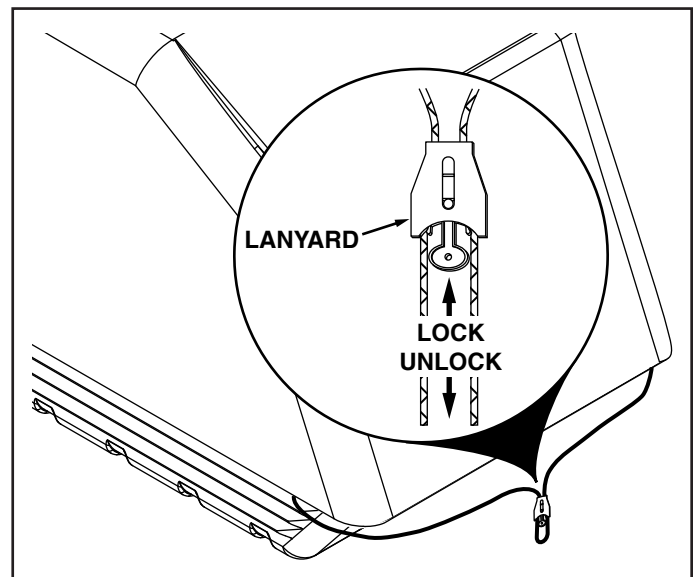

FIGURE 14
- Allow the rope to hang loosely behind the rear of the cart. Use the lanyard to tighten the rope until it firmly secures the cart cover to the cart. See figure 14.
- Ensure lanyard is locked to keep rope in place. See figure 14.